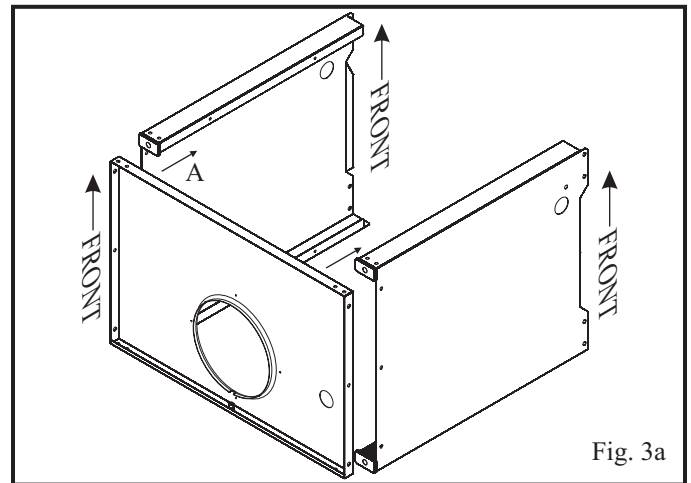

Fig. 3a
- (1) Bottom Panel
- (2) Cabinet Sides with Caster Inserts attached
- (6) 1/4-20 x 1/2" Bolts
- (8) 1/4-20 x 1-1/2" Bolts
- (14) 1/4-20 Nuts
A. Position the Bottom Panel and Cabinet Sides as shown in Fig. 3a, and align the holes of the Bottom Panel with the holes in the Cabinet Side.